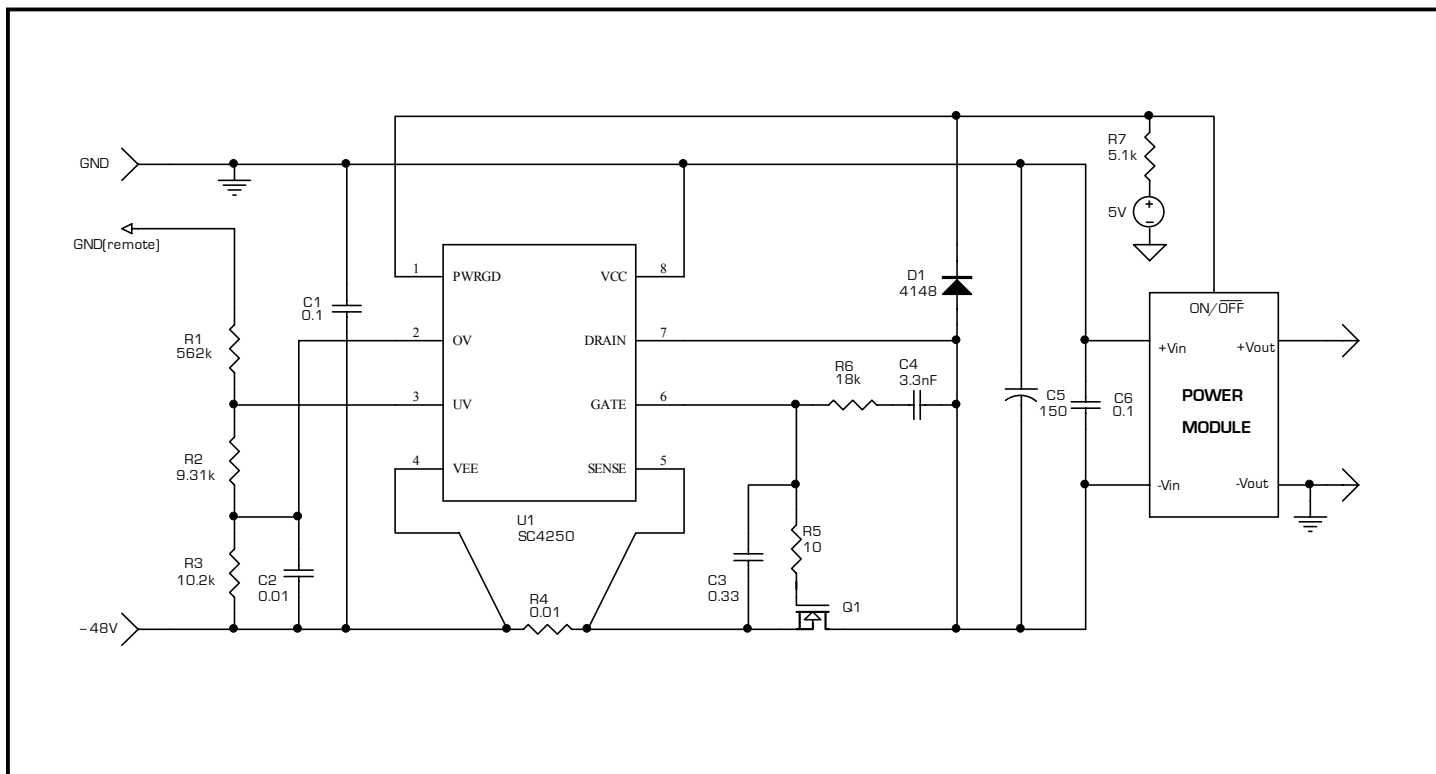

Figure 4. Active High PWRGD Module
(1) This device is ESD sensitive. Use of standard ESD handling precaution is required.
(2) The clamp diode must be present at V_{DRAIN} to PWRGD (see Fig. 4).
PWRGD signal can be used to directly enable a power module with active high “ON/OFF”. The DC-DC converters usually have a pull-up circuits built-in, as well as internal clamp. The schematic in Figure 4 shows a general case of employing PWRGD signal with external current source (1mA) and a diode clamp **D1**.